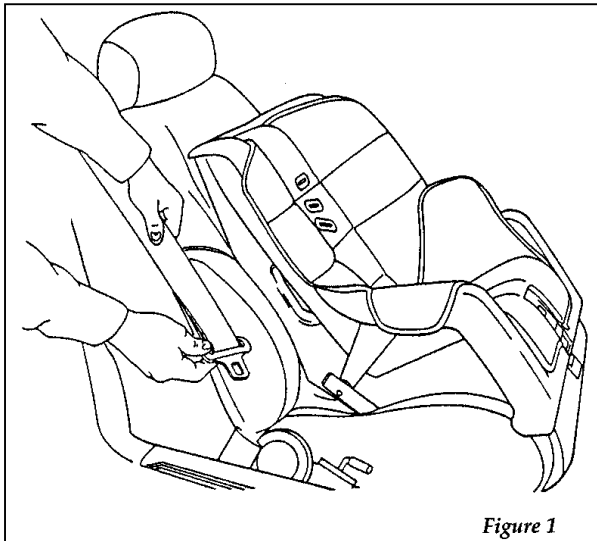

Figure 1
2. Pull down on shoulder belt, then grasp shoulder belt and lap belt together. See Figure 1.
1. Grasp the belt webbing below the tongue and pull as much of the belt out of the retractor as possible. Hold the belt out. See Figure 1.
2. With your other hand, grasp the tip (metal portion) of the tongue (not the cover) and slide the tongue up the webbing as far as it will go. See Figure 1. Release the tongue, but do not let go of the lap portion of the belt webbing.